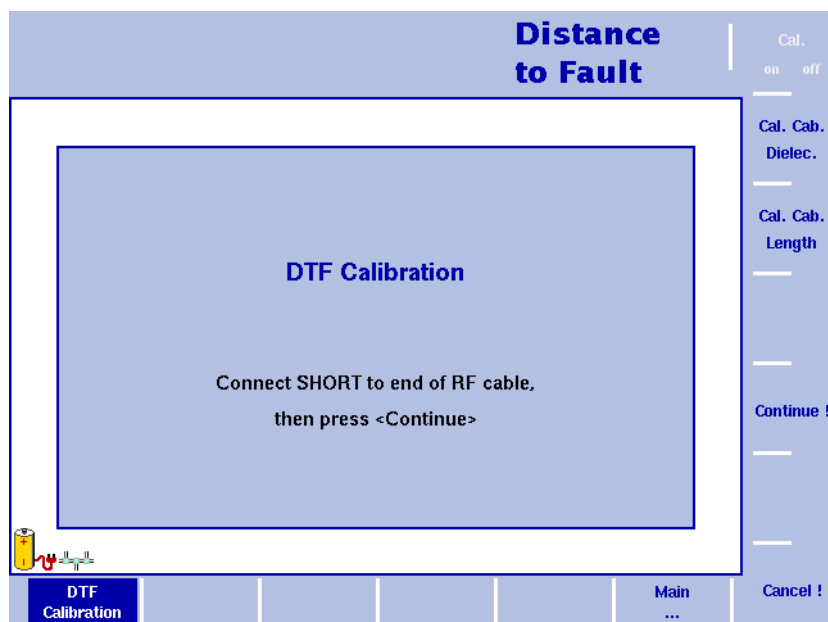

Figure 49 Distance to fault Calibration menu
- 5 The 9102 will guide you through the calibration process by onscreen messages as shown in Figure 49. When prompted as shown connect the calibration set to the test port extension cable and press **Continue**. You can abort the calibration process by pressing the **Cancel !** softkey.